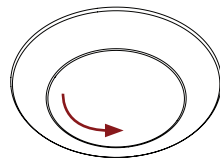

Figure 2
2. Remove lens by turning counter clockwise to unlock (Figure 2)